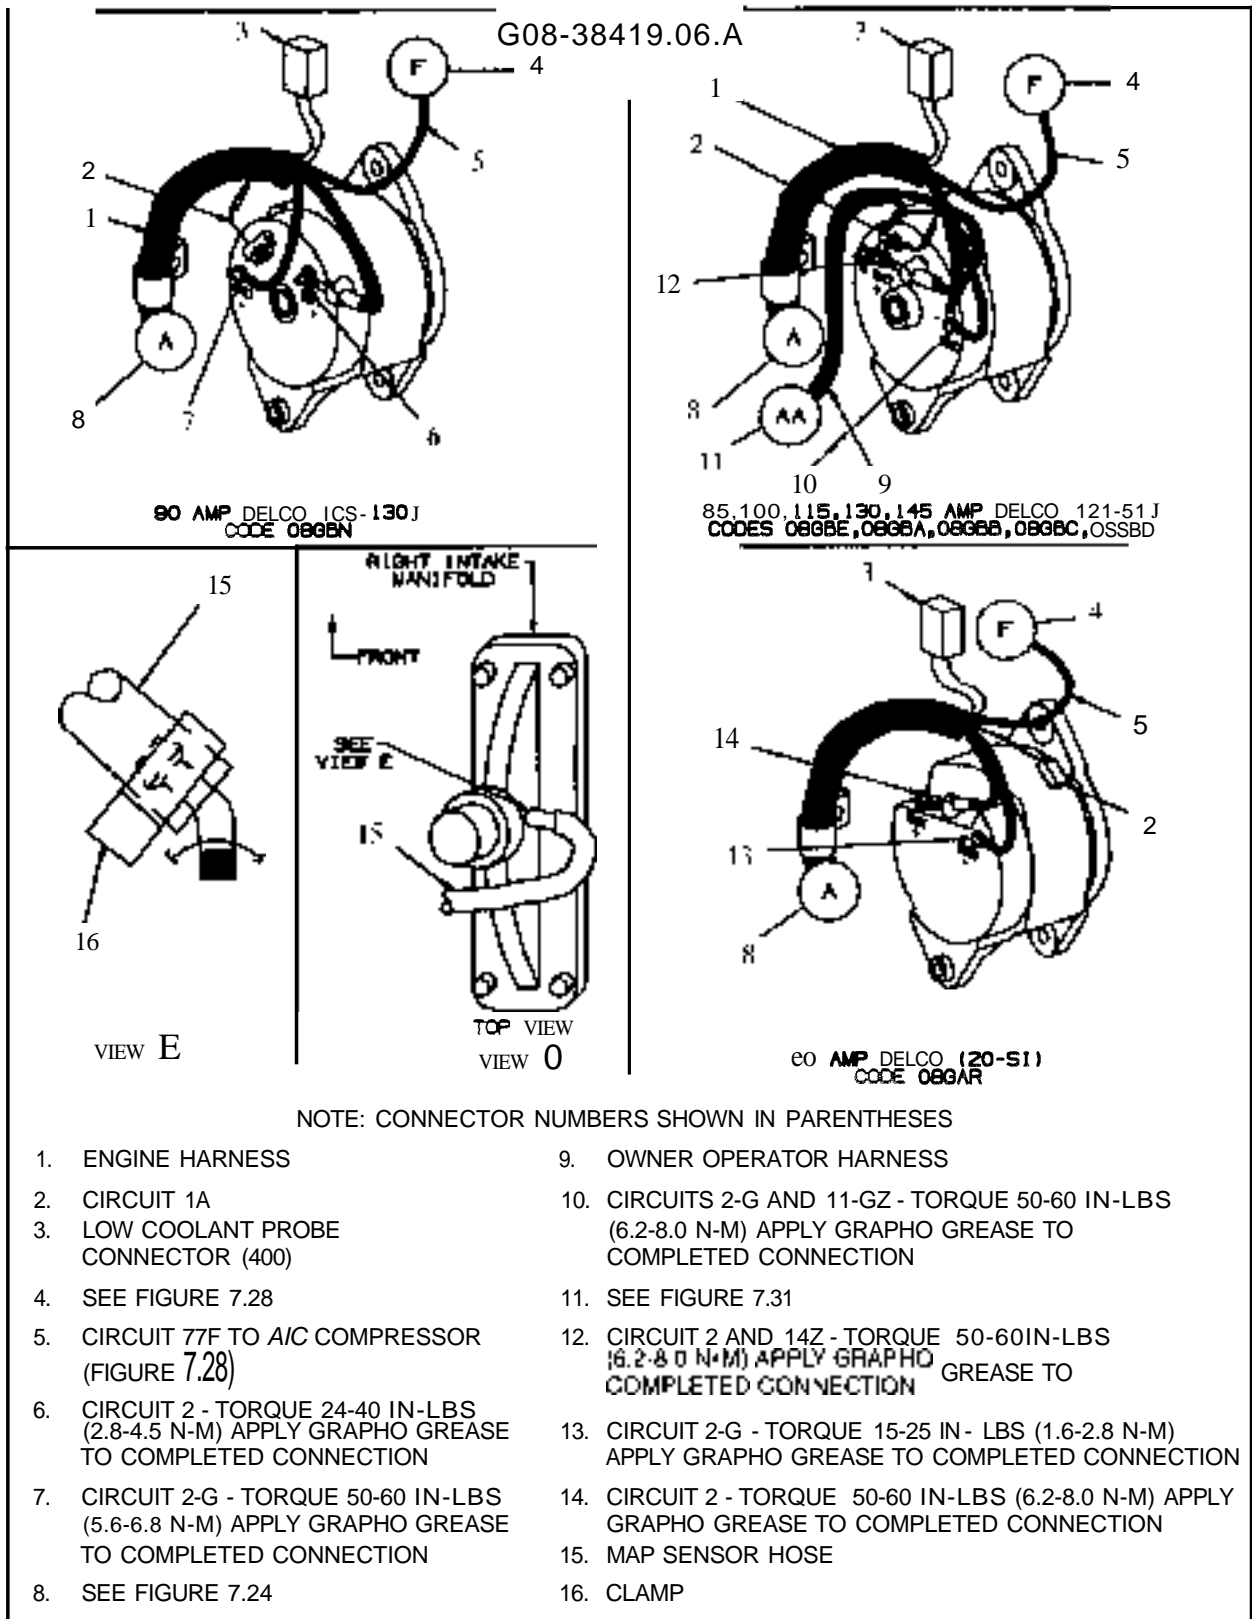

Figure 7.27 - VB Electronic Engine Wiring (Truck & FBe)
7. MAP SENSOR HOSE CONNECTOR BARB (SEE FIGURE 7.27 VIEW D AND E)
6. SEE FIGURE 7.27 OR 7.30